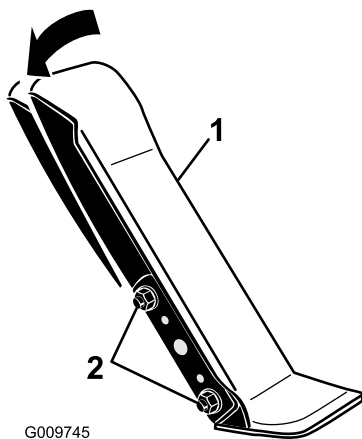

Figure 116
1. Loosen the 2 nuts and bolts securing the left side of the traction pedal to the bracket (Figure 116).
2. Pivot the pedal to the desired operating angle and tighten the nuts (Figure 116).